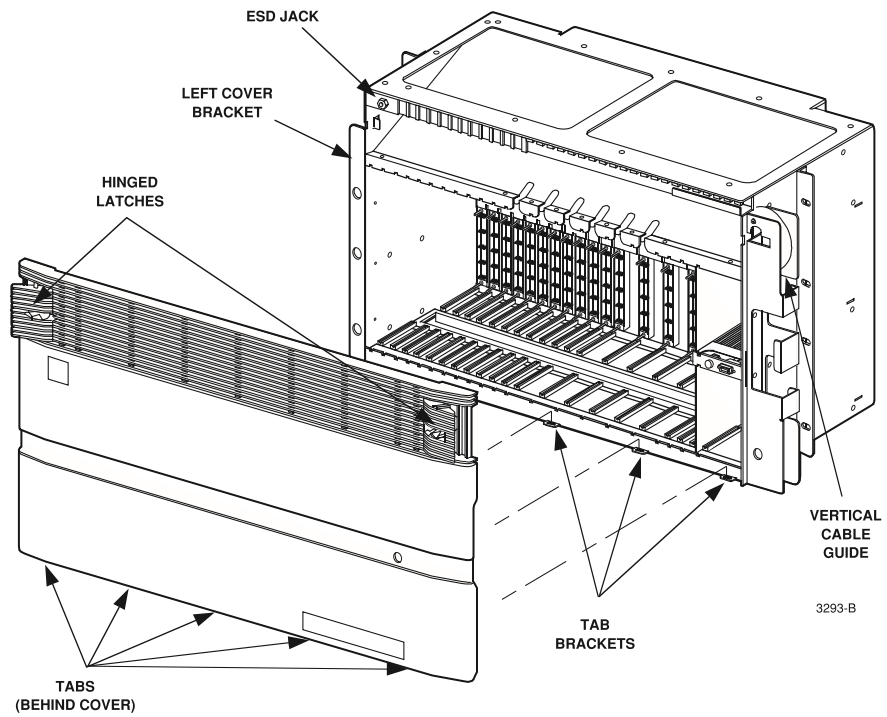

Figure. 4-18. HDT Front Cover Installation
1. Open both the left side and right side front cover latches as shown in Figure 4-18.
3. Position the tabs on the lower edge of the cover in the slots in the tab brackets at the lower edge of the HDT shelf (see Figure 4-18).